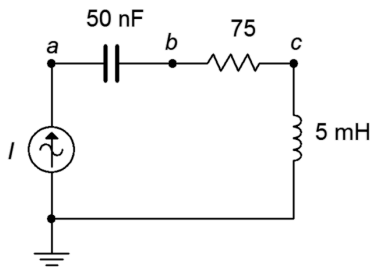

Figure 8.3
17. For the circuit shown in Figure 8.3, determine the resonant frequency, system Q and bandwidth. If the source is 20 mA peak, determine the resistor and capacitor voltages at resonance.